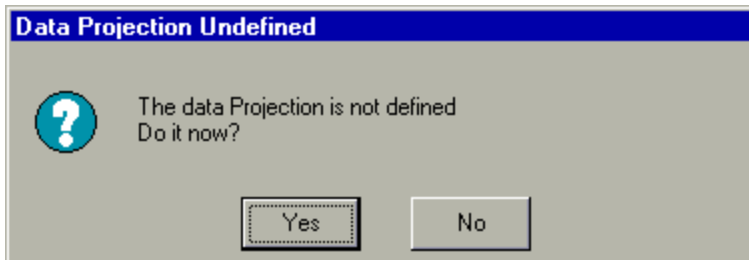

Figure 5.51
2. If the Projection for the watershed was not defined when the DEM was loaded, a message box will appear (Figure 5.51).